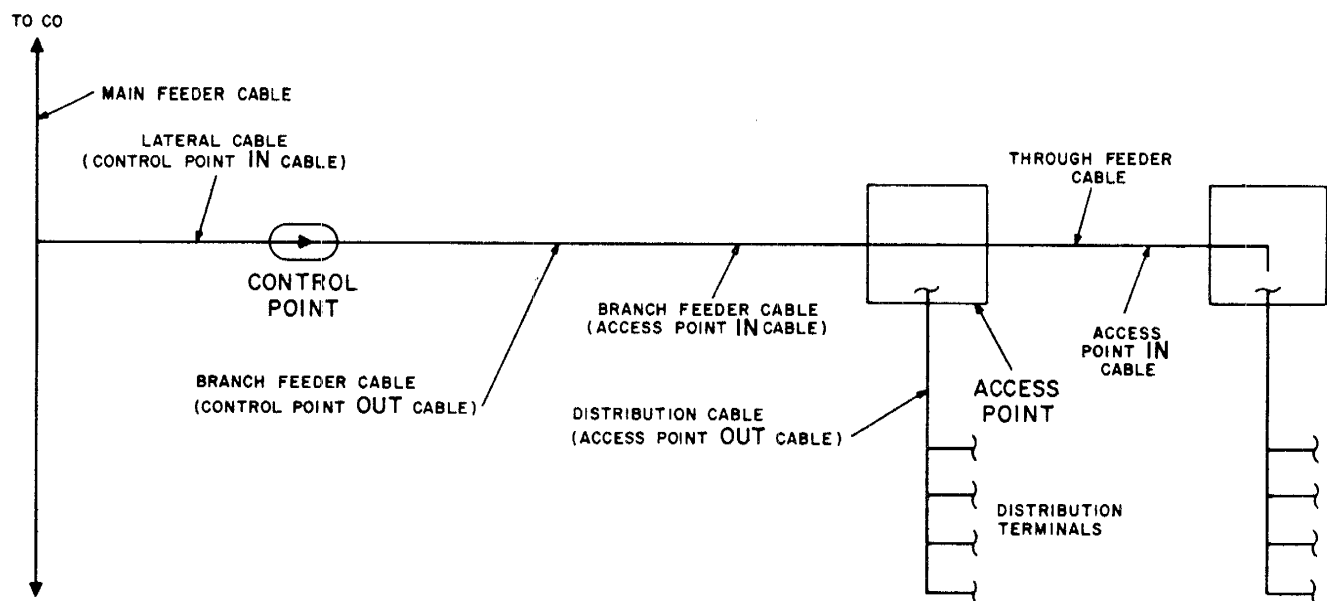

Fig. 1—Simplified Dedicated Plant Distribution System
(Fig. 1). Cables leaving access points toward subscribers are termed **OUT** cables. Cables which originate in the access point assume the address of the access point, and the cable pair numbers assigned to the pairs in these cables begin at one (1) and continue up to the total number of pairs originating at this location. **THROUGH** feeder cables leaving access points do not change designations.